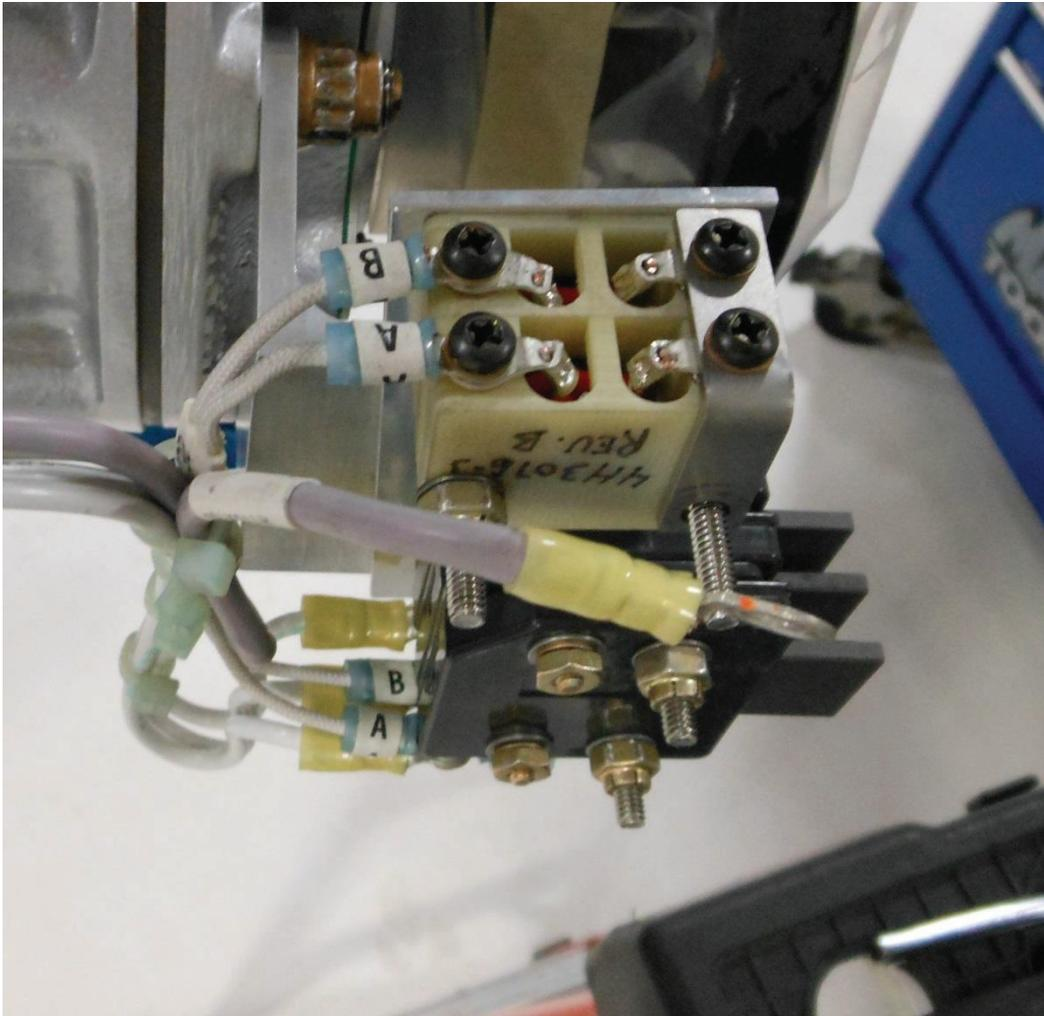

Figure 6
- g) Install MOV module onto the MOV mounting plate as shown in Figure 6 using the following procedure: